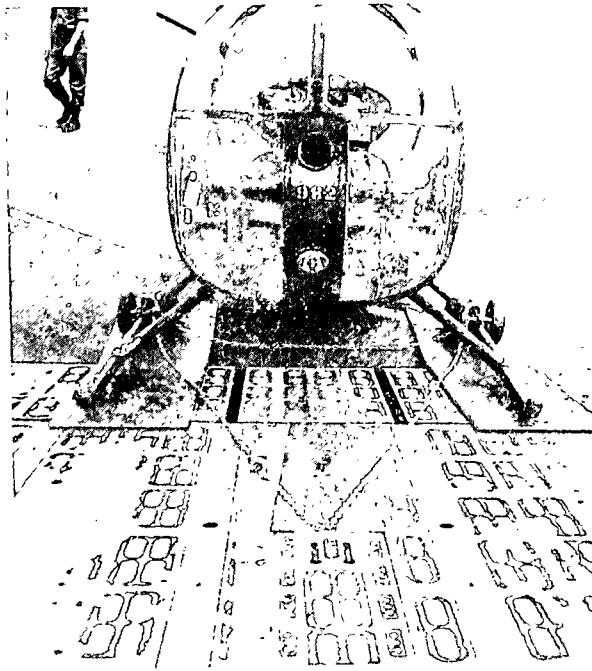

Figure 2-21. OH-6A helicopter positioned for loading.
(3) Winch the helicopter up the ramp into the airplane.
(4) The men at the empannage move the tail up or down as necessary to prevent contact with the airplane that could result in damage. They keep the tail raised until the helicopter is past the ramp hinge, then loading is halted.
(5) Unhook the winch cable, remove the towing bridle, and manhandle the helicopter to its tiedown location onto the parking shoring.
(6) Remove the ground handling wheels.
(7) Load the remaining helicopters in numbered sequence.
(8) Position the OH-6A helicopter facing in the appropriate direction in front of the C-5 ramp, in line with the ramp-toe extension (fig 2-21). Attach the airplane winch cable hook to the towing bridle.
(9) Station the six man loading team: two men at the empannage; two men at the cargo door openings; one man to control the rotor blades; and the leader who moves about as best to observe the loading and give instructions.
(10) Winch the helicopter up the ramp into the airplane.
(11) Unhook the winch cable, remove the towing bridle, and manhandle the helicopter to its tiedown location onto the parking shoring.
(12) Remove the ground handling wheels.
(13) Load the second OH-6A helicopter in its numbered sequence.